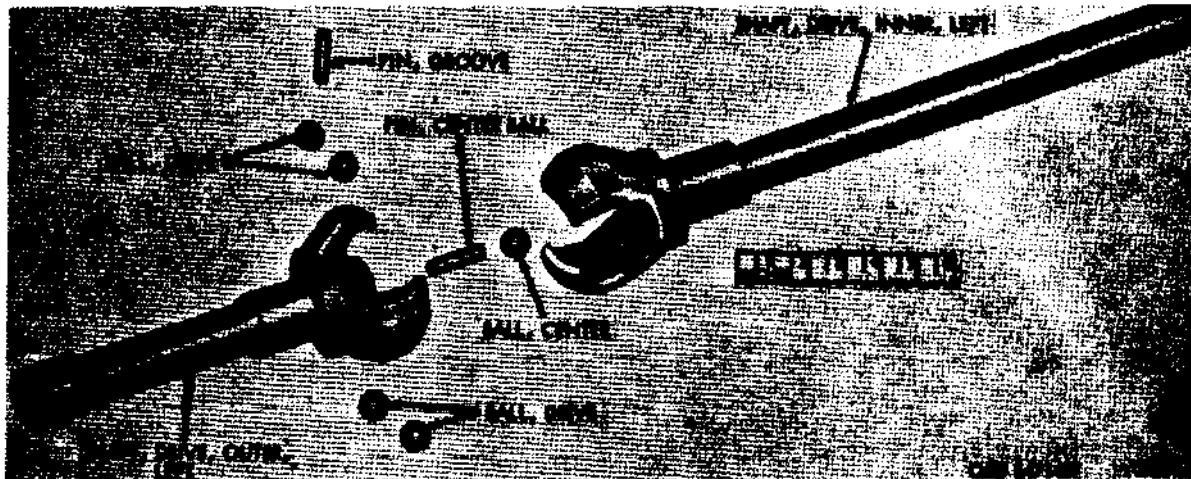

Figure 351. Drive shaft and universal joint assembly (Bendix) - exploded view
- (5) Dislodge center ball pin. After removing groove pin ((4 above); hold universal joint drive shaft assembly in a vertical position and bounce end of outer drive shaft on a wood block to dislodge center ball pin (fig. 351), allowing pin to drop farther into the passage in outer drive shaft.